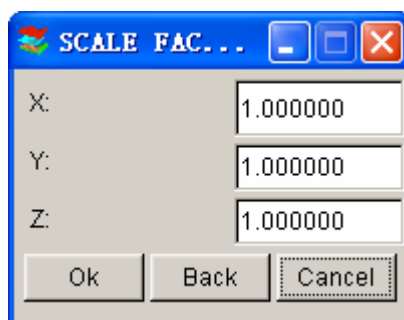

Figure 5.1.8 Scale Factor
- Enter the desired scale factors in the fields in the SCALE FACTOR dialog window. See Figure 5.1.8.